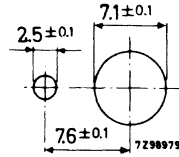

Fig. 4. Mounting holes for potentiometers with mounting bushings.
- Fig.4 for potentiometers with mounting bushings. The potentiometers can be fixed with the supplied mounting nut. The maximum torque for tightening the nut is 100 Ncm.